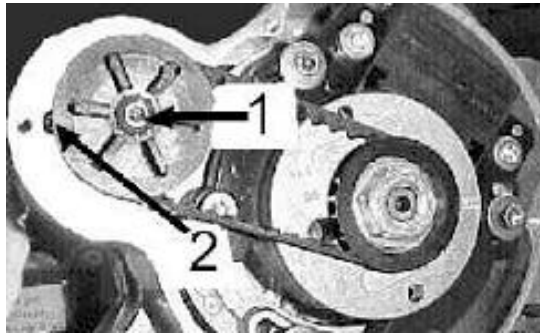

Figure 22
9. Remove belt retainer screw using a 1/8" hex key. (Figure 22 - item 1)
11. Remove bearing retainer screw using a 3/32" hex key. (Figure 22 – item 2)